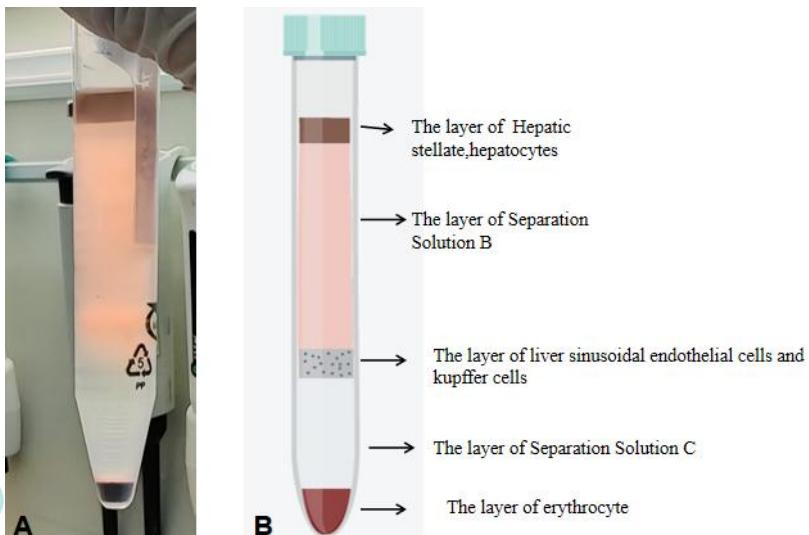

Figure 4. Reference image of cell suspension after centrifugation with Separation solution
(6) After stratification, centrifuge tube at 900 g for 15 minutes (set the acceleration to 1 and the decelerate to 0); After centrifugation, the liquid can be seen to be divided into 5 layers, from top to bottom: the top layer is approximately 2-5 mm thick hepatic stellate cells and hepatocytes layer, the second layer is approximately 6 mL Separation solution B, the third one is approximately 2-3 mm thick, liver sinusoidal endothelial and kupffer mixed cells (hereinafter referred to as the white membrane layer), the fourth is approximately 3 mL Separation solution C, and the bottom layer is approximately 2-5 mm thick red blood cell precipitation (as shown in Figure 4).
(7) Discard the top layer of cells and use a 1 mL pipette tip above the white membrane layer. Carefully remove the cells from the third layer of white membrane layer into a new sterile 15 mL centrifuge tube, add 5 mL of **Specialized Washing Solution For Mouse Kupffer Cells** to resuspend the cell suspension, centrifuge at 400 g for 5 min, discard the supernatant, and retain the precipitate.
(8) Resuspend 5 mL of **Complete Culture Medium for Mouse Kupffer Cells** and seeding it into a new 6 cm culture dish.
(9) Incubate in a 5% CO₂ incubator at 37°C for 25 minutes, then transfer the supernatant to a new culture dish. Add 5 mL of fresh **Complete Culture Medium for Mouse Kupffer Cells** to the original culture dish and continue culturing at 37°C for 25 minutes.
(10) Transfer the transferred supernatant again to a new dish, add fresh complete culture medium to the original dish, and repeat this transfer process 1-2 times.
(11) After differential adhesion, most of the kupffer cells exist in the dish seeded in step 8, while the rest of the dishes only have a small or partial amount of kupffer cells, which can be selected according to the specific cell purity and cell quantity.
(12) After 48 hours of cultivation, collect the target cells and rapidly digest them with 0.25% trypsin for about 1 minute. Discard the first digested cells, which may contain loosely adherent liver sinusoidal endothelial cells. Gently rinse the bottom of the dish with a **Specialized Washing Solution For Mouse Kupffer Cells**, discard the solution, add fresh complete culture medium, and change the medium every 2-3 days thereafter.
(13) Cell digestion: It is generally not recommended to perform digestion and passage operations on kupffer cells. If it is necessary to transfer the cells in the original dish, please follow the following steps.